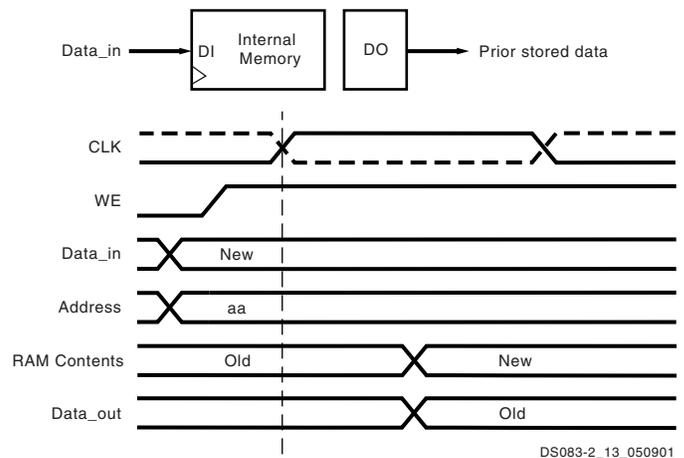

Figure 50: READ\_FIRST Mode
The same clock edge that writes data input (DI) into the memory also transfers the prior content of the memory cell addressed into the data output registers DO, as shown in Figure 50.